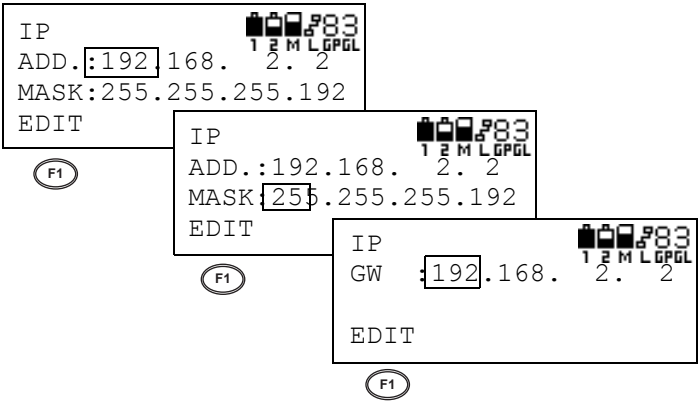

Figure 3-84. Press F1 when Changing Each Parameter
4. Press **F1** (CHG) to change IP parameters (Figure 3-84). See “Selecting Parameters” on page 3-10 for details on this procedure.